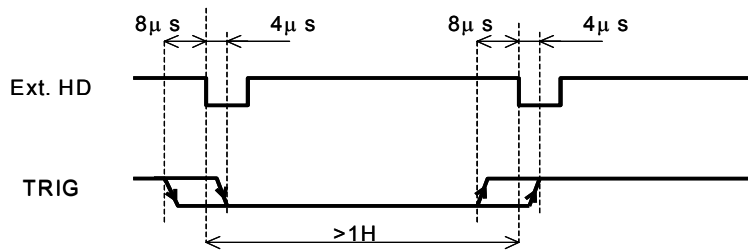
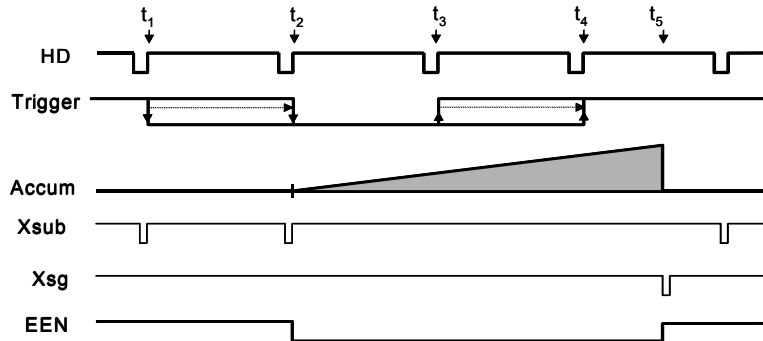
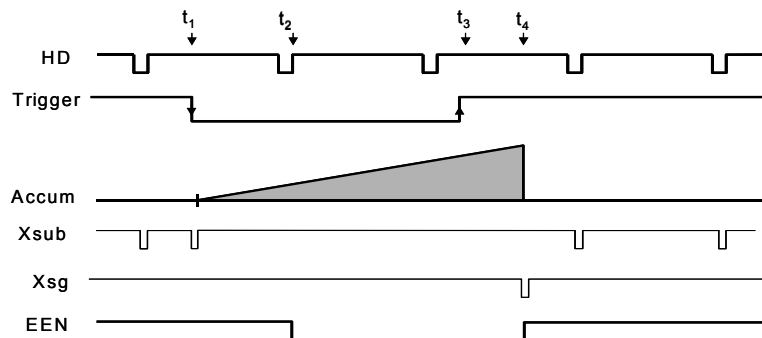

Fig. 17. Trigger/HD Timing.
Fig.18. Pulse Width H Synchronous Accumulation
Fig. 19. Pulse Width H Asynchronous Accumulation.
The default accumulation is HD synchronously accumulation (HC=0). The accumulation starts at the first HD after the trigger leading edge. Fig. 18. To avoid the $<1H$ jitter caused by this delay, synchronize the external trigger to HD as shown in fig. 17 below. The trigger level translations should be placed inside the $8 + 4 \mu\text{s}$.
In PWC mode (TR =2) and Frame Delay readout (TR=3), the accumulation mode *HC* can be set to asynchronous accumulation (HC=1). The exposure will start immediately at the leading edge of the trigger pulse without waiting for the HD. Fig. 19. below.
- The start of exposure will start synchronized to the internal H signal. The start may be shifted max 1H. To avoid this shift (1 H jitter), synchronize the camera to an external HD and make sure that the trigger pulse aligns to the HD as shown in fig. 17.
- With HC=0 the start of exposure will start synchronized to the internal H signal, the start of exposure may be shifted max 1H. To avoid this shift (jitter), synchronize the camera to an external HD and make sure that the trigger pulse aligns to the HD as shown in fig. 17.
- With HC=1 the exposure will start immediately. Refer to fig. 18 and fig. 19.